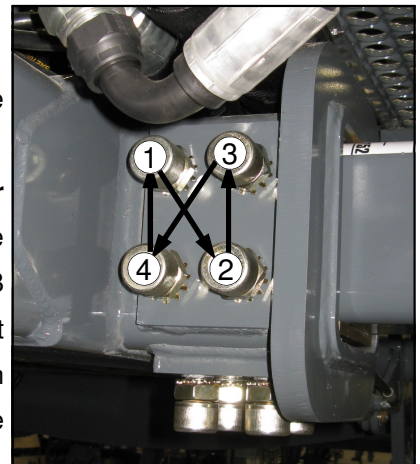

FIG 98-2
2. Using an “X” pattern (fig. 98-2), verify that current torque on each tread adjust bearing bolt is equivalent to the last check from 100 hours previous.